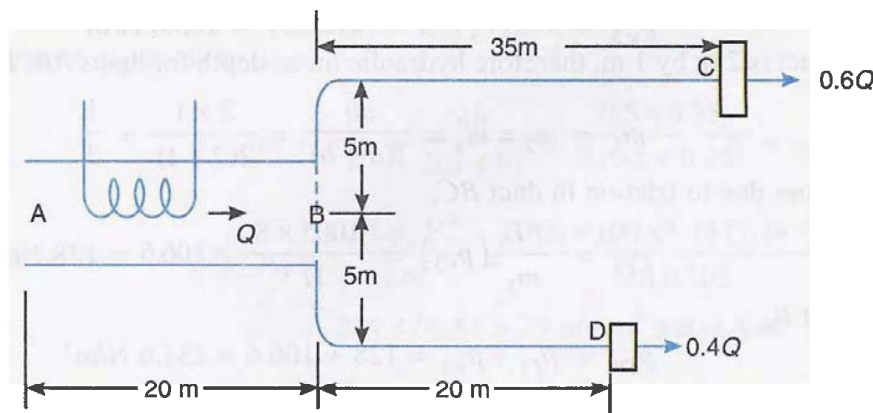

Fig. 20.7
**Example 20.6.** Fig. 20.7 shows a duct system containing a dehumidifying coil. The air enters at a dry bulb temperature of  $26^\circ\text{C}$  and relative humidity of 60% and leaves at a dry bulb temperature of  $14^\circ\text{C}$  and relative humidity of 90%. The chilled water enters the cooling coil at the rate of  $15 \text{ kg/s}$  and its temperature rise is  $4.03^\circ\text{C}$ . The velocity in the main duct is  $10 \text{ m/s}$ . The aspect ratio for each duct is  $2 : 1$ . The main duct line is A-B-C with pressure drop per unit length being same and there is no damper in the system. The pressure drop due to  $90^\circ$  bend is equivalent to 3 times the diameter of the duct at the point considered.